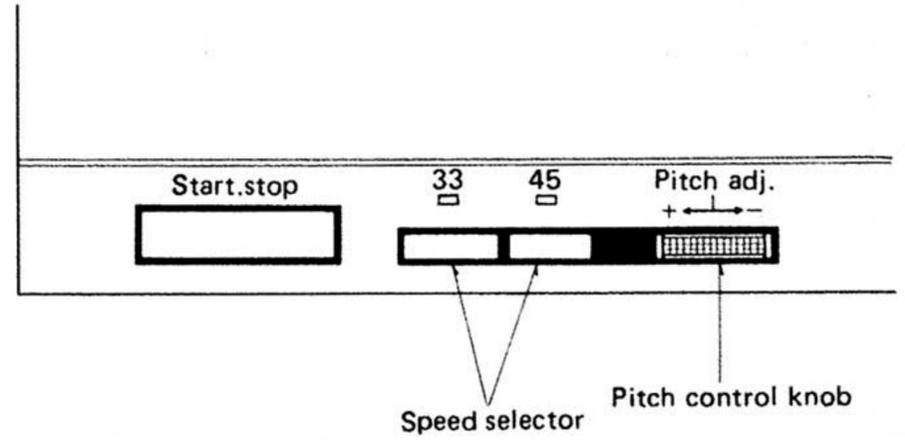

Fig. 15
4. Push the speed selector button to "45 r.p.m.". (See Fig. 15)
7. Push the speed selector button to "33 r.p.m.". (See Fig. 15)